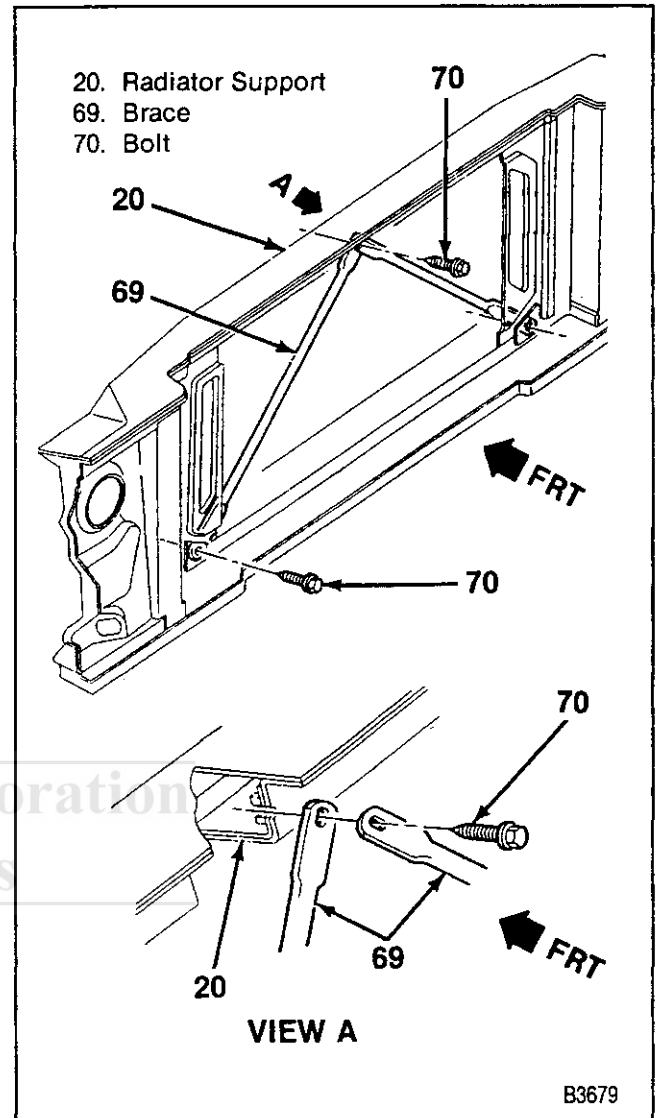

Figure 23—Radiator Support Braces
20. Support braces from the support (figure 23).
- Place the top of the left brace between the support and the right brace (figure 23).